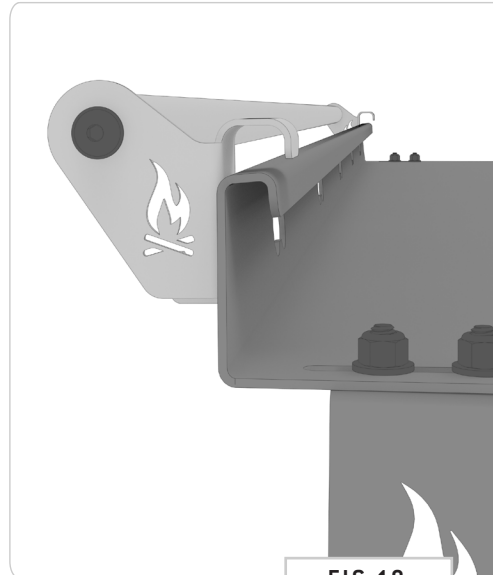

FIG 19
6.1 Position Curtain Rod: Hang the **Curtain Rod** on the **Headliner Shelf** (FIG 19). Position the **Curtain Rod** so that it is centered.